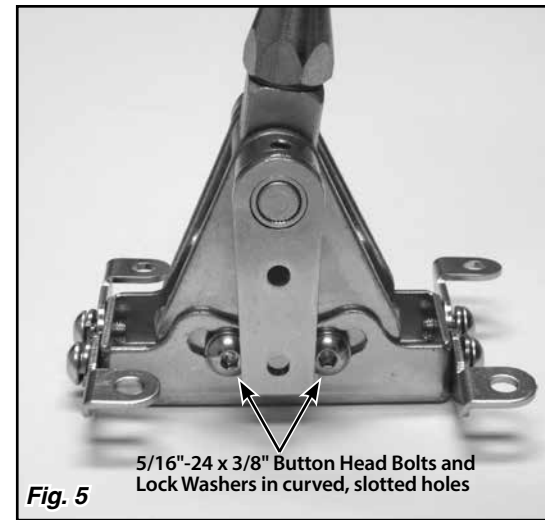

Fig. 5
Step 4: Make sure the two 5/16"-24 x 3/8" button head bolts that are in the curved, slotted holes in the left side of the floor mount mounting bracket are tight. Place the Shifter in the desired location on the vehicle's floor. Make sure the shifter lever will not interfere with the dash when in Park, or with the seat when in low gear. The shifter assembly may be tilted forward or backward if needed by loosening the two 5/16"-24 x 3/8" button head bolts that are in the curved, slotted holes in the left side of the floor mount mounting bracket. Retighten the button head bolts in the curved, slotted holes once you have the shifter assembly at the angle you want. Fig. 5